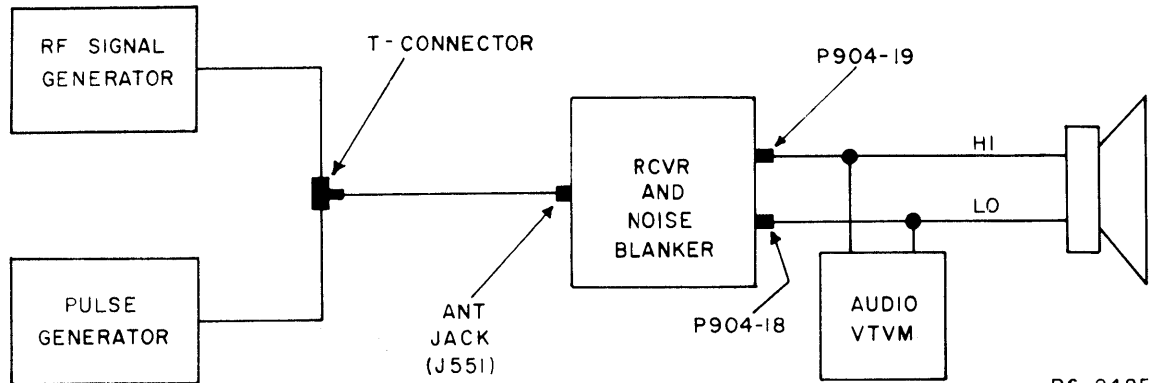

Figure 1 - Equipment Connection Diagram
- 1. Connect Pulse Generator and RF Signal Generator to receiver antenna jack (J551) through a T-Connector, and connect AC VTVM to receive audio output (Speaker LO, P904-18, Speaker P904-19) as shown in Figure 1.